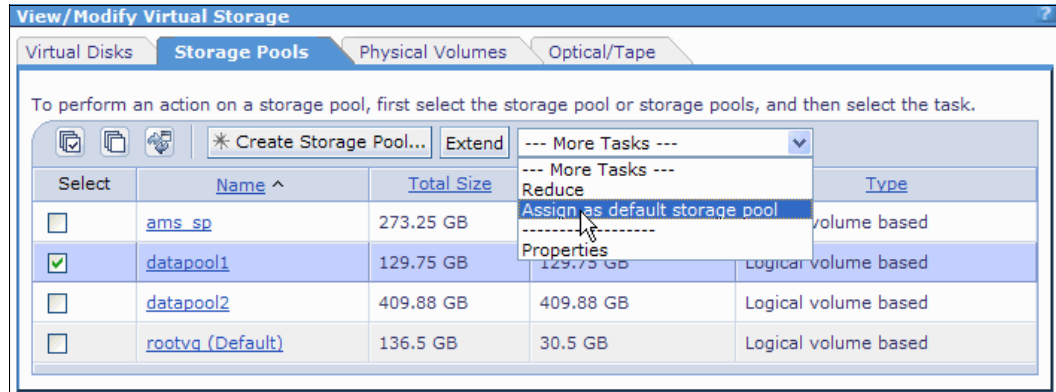

Figure 4-8 Assign as default storage pool option selection
4. Select **Assign as default storage pool** from the **More Tasks** drop-down list, as shown in Figure 4-8.